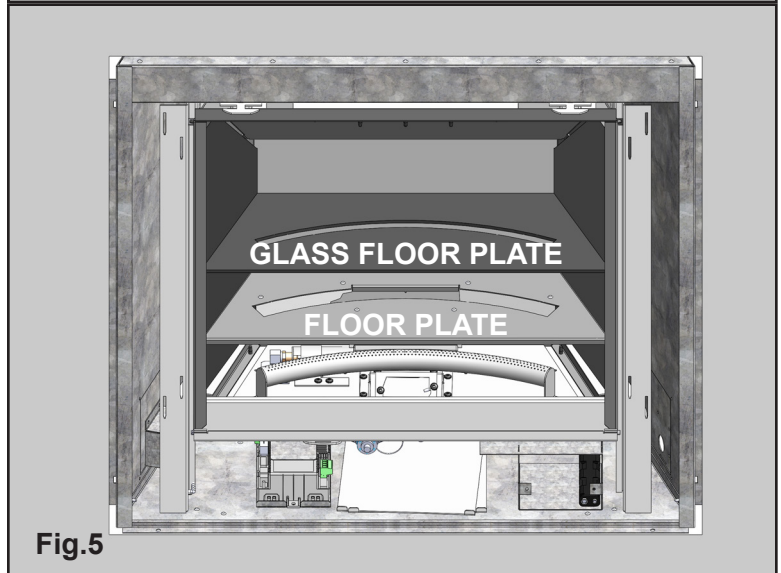

Fig.5
- Remove the glass floor plate and set it aside. (**Fig.5**)
- Remove the floor plate assembly and set it aside.(**Fig.5**)